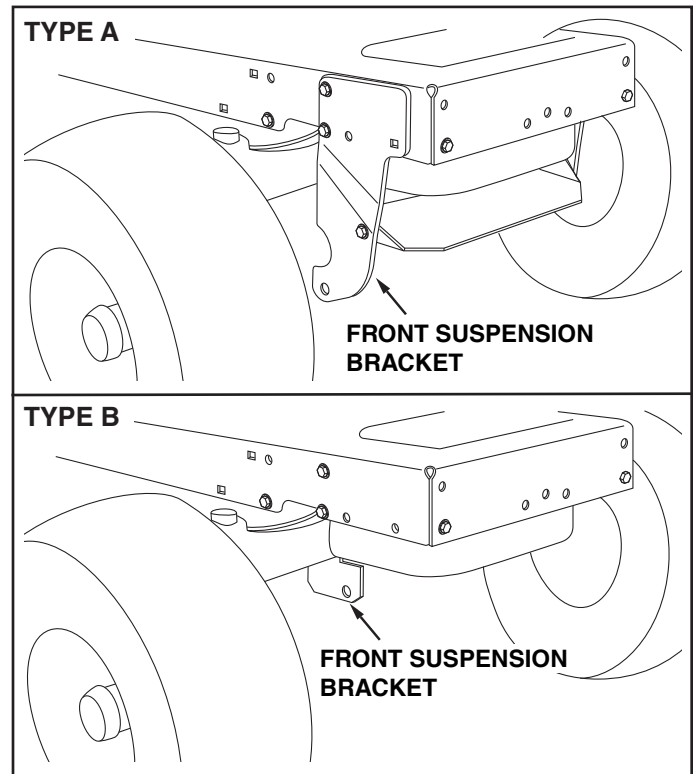

FIGURE 4
- Compare your tractor to the ones shown in figure 4.